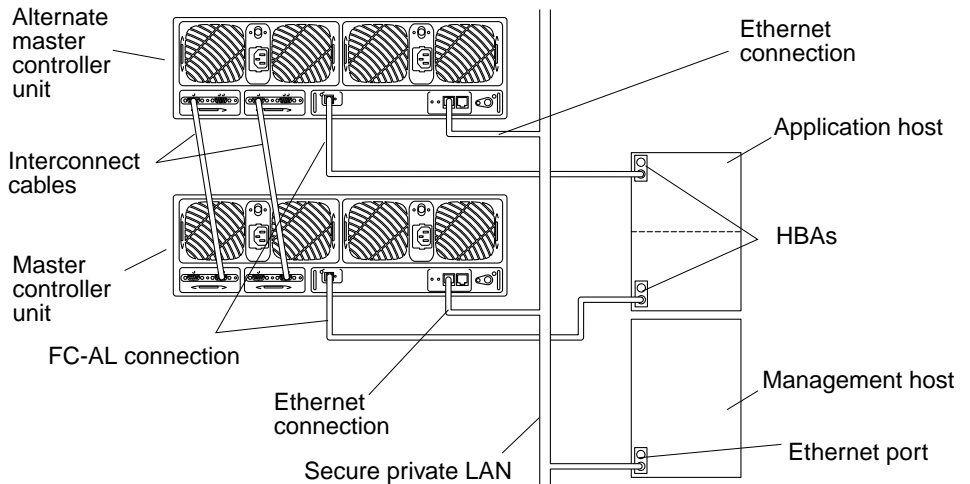

FIGURE 3-6 Single Host With Two Controller Units Configured as a Partner Group
5. If configured as an enterprise configuration, disconnect the interconnect cables from the alternate master controller. See FIGURE 3-6.